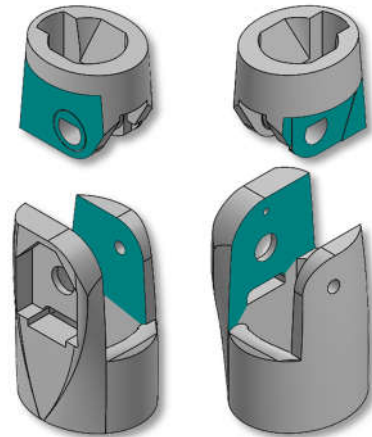
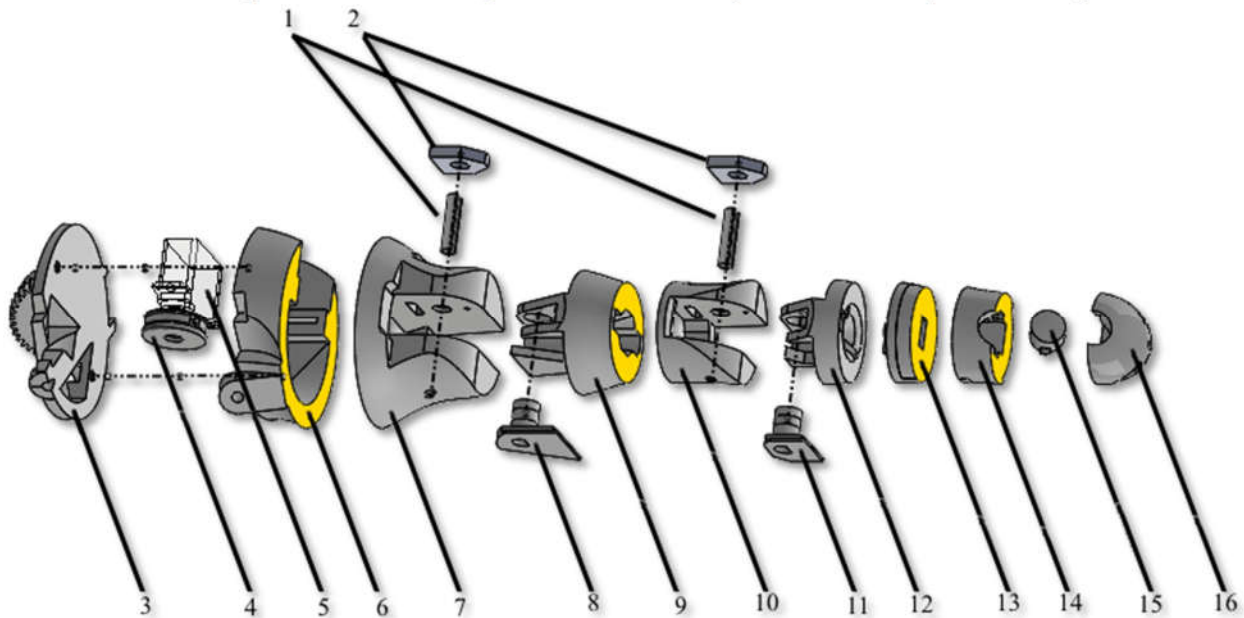
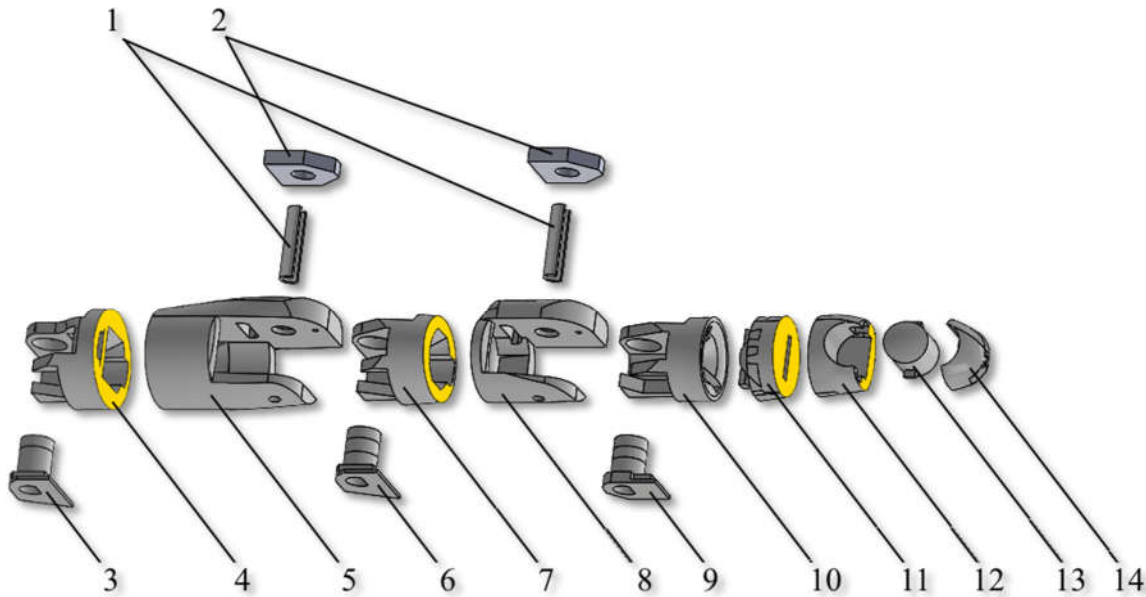

Figure 5: Sanding locations for finger joints
Figure 11: Thumb assembly diagram
Figure 14: Index finger (D2) assembly diagram
2. Finger Joints: The outside faces of all XP – P Main and XP – P Pivot parts, as well as the inside faces of all XP – D parts should be sanded lightly with 120 grit sandpaper to ensure a smooth running fit between the parts. Figure 5 shows the locations that need to be sanded for the intermediate joint of the fingers. Proximal and distal joints will also need to be sanded. It is best to install the pivot parts in the main parts prior to sanding. Any surfaces that will be glued should also be sanded; refer to Figure 11 and Figure 14.
Assemble the thumb parts as shown in Figure 11. File or sand parts as necessary to achieve good fits.
Assemble the finger parts as shown in Figure 14. File or sand the parts as necessary to achieve good fits.